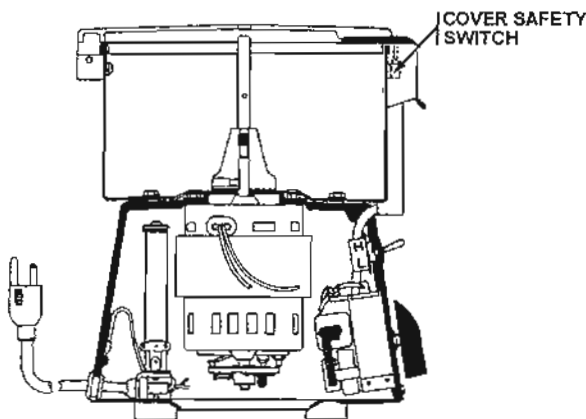

Figure 3-2. Cover safety switch.
a. Cover safety switch test (fig 3-2).
(1) Ensure that the timer pointer knob is at its "OFF" position.
(2) Connect the electrical power cable assembly into a 115-volt electrical receptacle.
(3) Verify that the rotor assembly is properly installed by opening the cover and then rotating the rotor assembly clockwise on the spindle.
(4) Close the cover but do not latch it.
(5) Set the speed switch to its "LOW" position.
(6) Set the timer for several seconds by turning its pointer knob clockwise and observing that the rotor assembly does not spin.
(7) Turn the timer pointer knob to its "OFF" position.
(8) Latch the cover.
(9) Perform the applicable troubleshooting procedures in accordance with this chapter, section VI, if the rotor assembly started to spin.